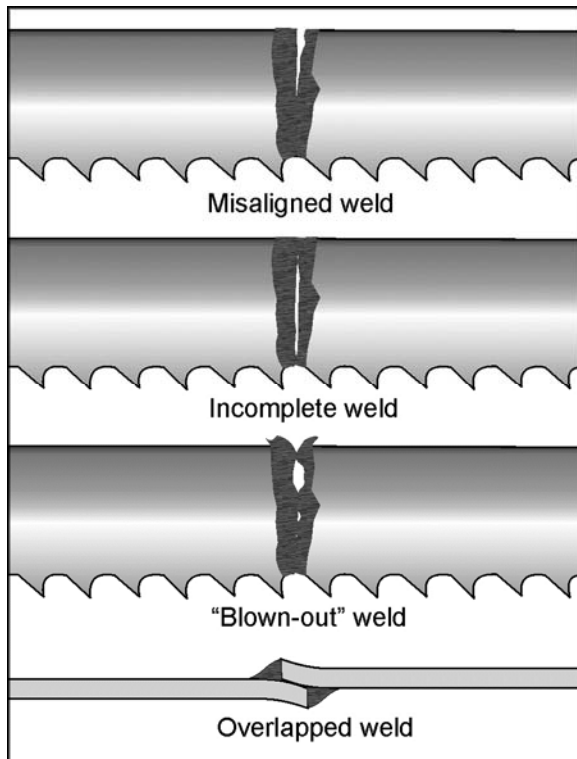

Figure 14
10. Remove blade from clamps, and carefully inspect it. The spacing of the teeth should be uniform and the weld should be located in center of gullet. Misalignment is easily noted at this time from the weld appearance. See Figure 14 for examples of incorrect welds.